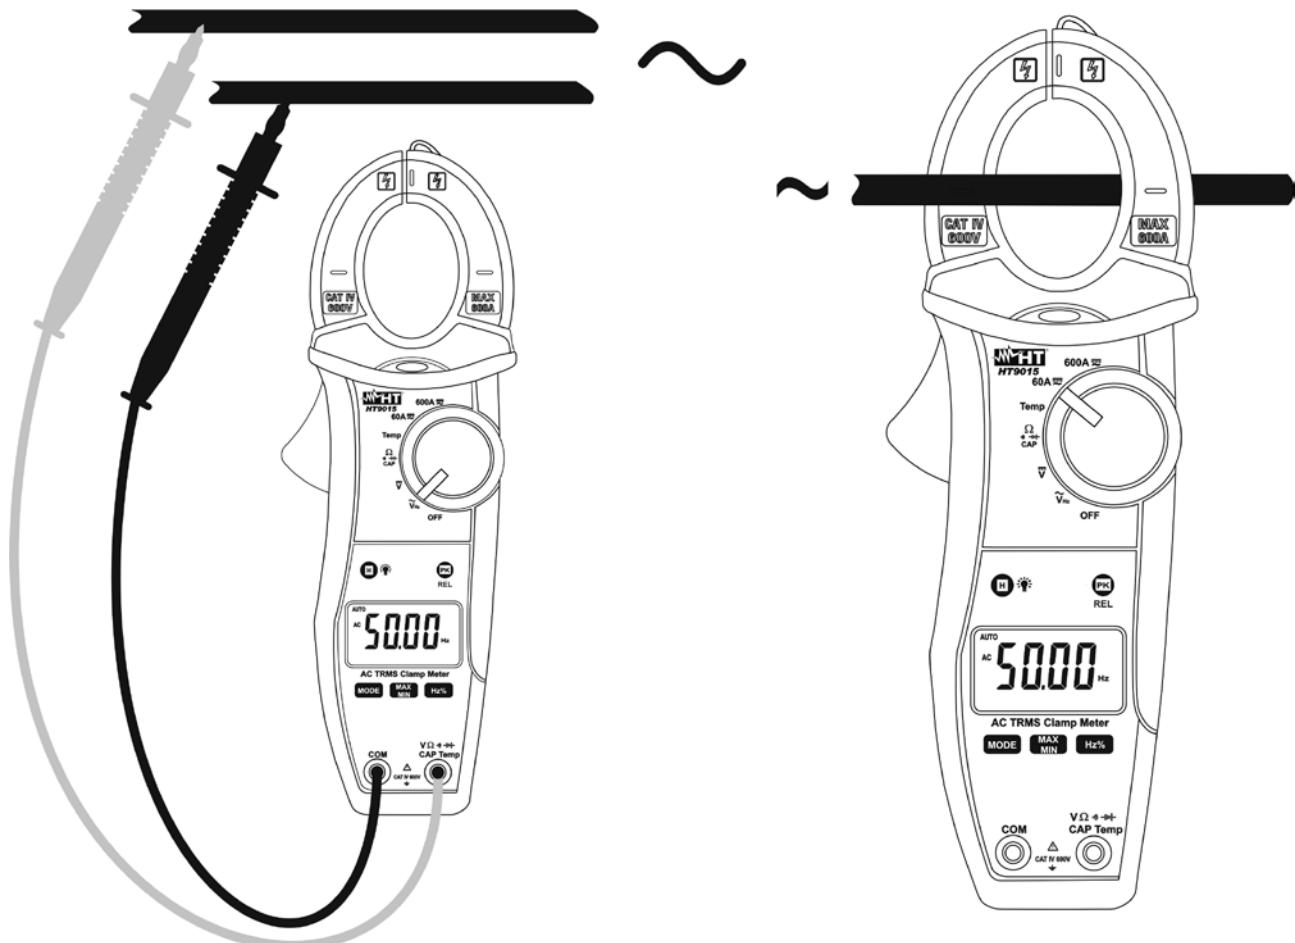

Fig. 11: Taking frequency and duty cycle measurements
3. Insert the red test lead plug into **VΩ** jack and the black test lead plug into **COM** jack (see Fig. 11 – left side) for frequency measurement with test leads. Open the clamp and put the conductor to be tested in the middle of the clamp jaw (see Fig. 11 – right side) for frequency measurements with jaws, then reading will be displayed. Bargraph is disabled in frequency and duty cycle test